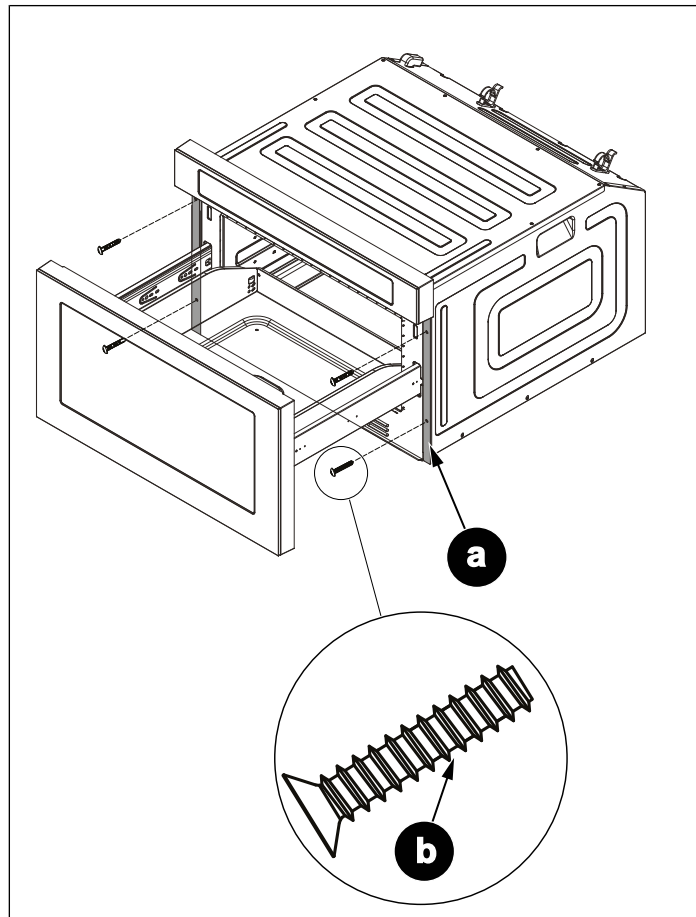

Fig. 3
- 3) Slide the microwave drawer all the way until the mounting flange (Fig. 3 a) is flush with the face of the cabinet.
- 4) Open the microwave drawer. Using the 4 holes on the microwave drawer to guide in pre-drilling the cabinet using a 1/16" drill bit. Refer to Fig. 3 .
- 5) Secure the drawer with (4) M4*16-F Philip countersunk screws. Refer to (Fig. 3 b).
- 8) Open the microwave drawer. Use the 4 holes on the microwave drawer to guide in pre-drilling the cabinet using a 1/16" drill bit. Refer to Fig. 3 .
- 9) Secure the drawer with (4) M4*16-F Philip countersunk screws.